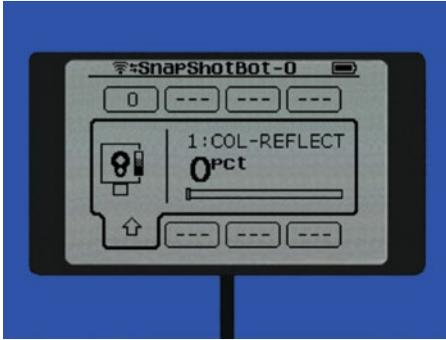

Figure 10-6. *The Color Sensor screen in the COL-REFLECT mode*
3. Then press the dark gray Select button. If your Color Sensor is attached to Port 1, the screen will look like Figure 10-6.
5. It should be on the COL-REFLECT option. If necessary, use the up or down button to select COL-REFLECT. Then press the dark gray Select button and your screen should resemble the one in Figure 10-6.